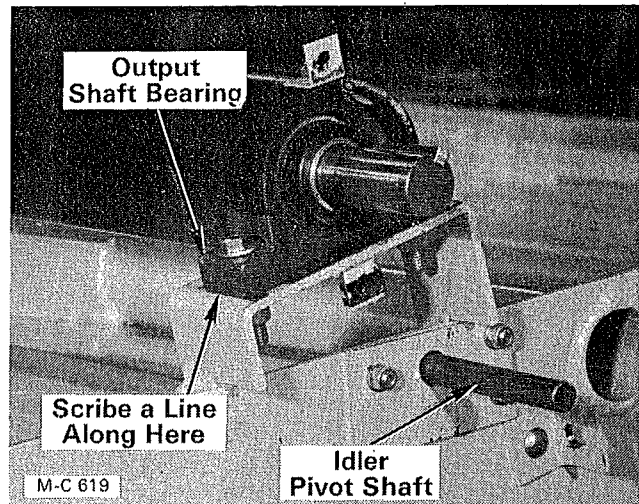

Figure 41
5. Scribe a line on the output shaft bearing mounting bracket as shown in Figure 41 to establish the location of the new bearing when reassembling.
10. Align the edge of the output shaft bearing with the mark scribed on the mounting bracket made in step 5, see Figure 41. Tighten the output shaft bearing capscrews and two set screws in the bearing collar.